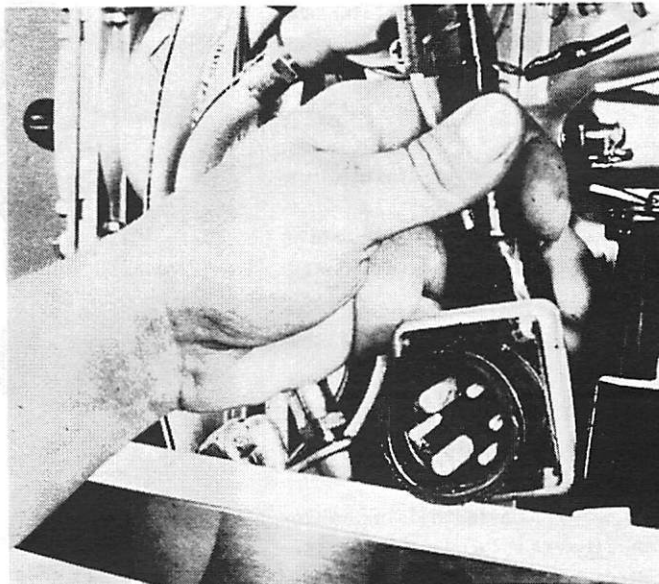

Figure 1. Removing Harness Connector
A. ELECTRICAL HARNESS - Removal (Figure 1)
3. Flywheel with Flywheel Puller (C-91-24695A2). (Figure 1) While lifting flywheel off crankshaft, slide timing belt off flywheel pulley.